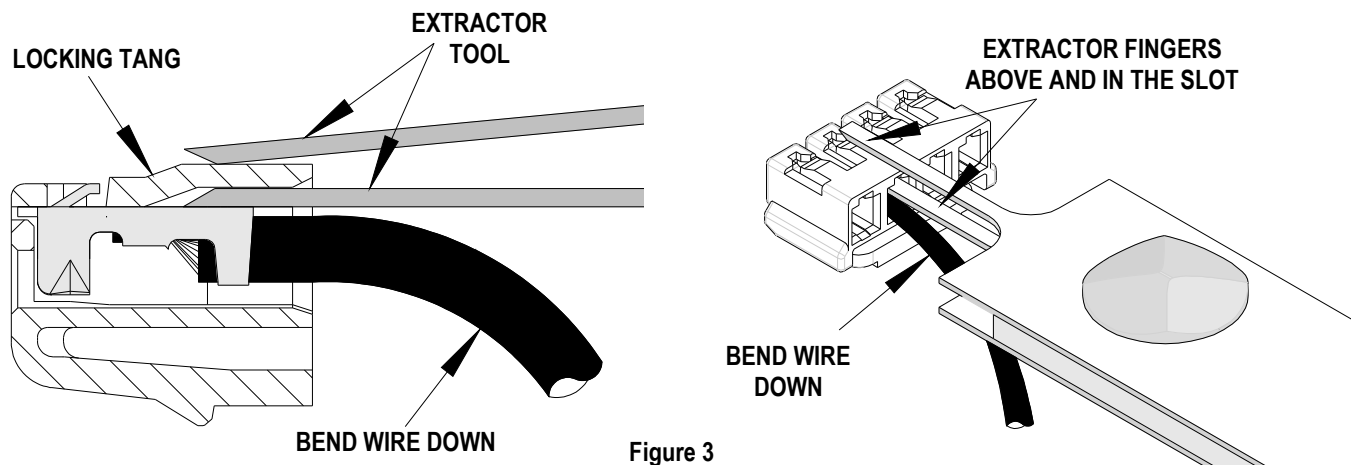

Figure 3
1. Hold the housing with the locking tang facing up. Bend the wire down and insert the fingers of the tool above and into the housing under the locking tang. Hold the wire against the extractor tool and pull out the wire and the extractor tool at the same time. See Figure 3.